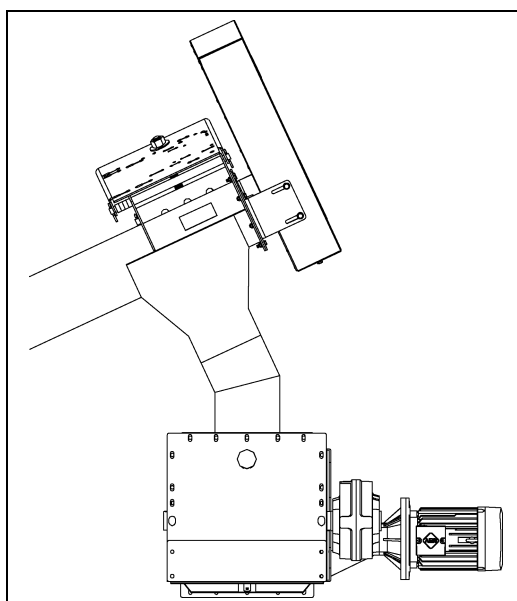

Figure 2B
- b. A shorter tube may be used only where the tube is directly connected to other handling equipment. (See Figure 2B.)